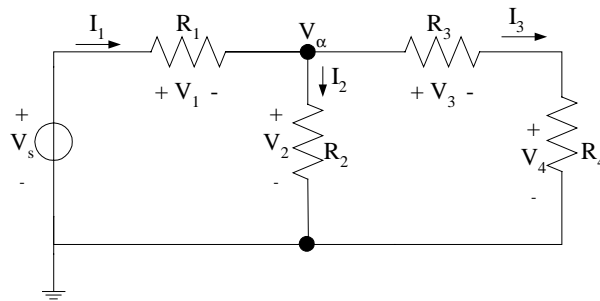

Figure 1: dc Resistive Circuit
The following outlines a sample **Theory** section. Complete the calculations where indicated in your report. The dc resistive circuit shown in Figure 1 is used for this investigation:
- A. Ohm's Law, $V=IR$, states that the voltage V across a resistive element is directly proportional to the current I flowing through it, and is related by a constant known as resistance R . Write the Ohm's Law equations for the four resistors in the circuit of Figure 1.
- B. Kirchhoff's Voltage Law (KVL), $\sum V_i = 0$, states that the algebraic sum of the voltages around any closed path or loop in the circuit is zero. Write the KVL equations for the meshes in the circuit of Figure 1.
- C. Kirchhoff's Current Law (KCL), $\sum I_i = 0$, states that the algebraic sum of the currents at any node in the circuit is zero. Write the KCL equation at node α in the circuit of Figure 1.
The laboratory work associated with this investigation is conducted in three stages. First, the resistors for the circuit in Figure 1 are selected and measured. The circuit is then assembled on the protoboard and connected to the dc power supply. Second, the measurements of currents and voltages are taken with the source voltage set to 20.0 Volts. Third, the measurements of currents and voltages are taken with the source voltage set to 2.0 Volts.
- A. Resistor values are chosen for the circuit in Figure 1. Choose five different values for R_1 , R_2 , R_3 , and R_4 . Keep in mind that these are $\frac{1}{4}$ Watt resistors, and you do not want to burn up any of these resistors. Use the theoretical results derived above to help guide you in proper choices for these resistors. Measure the actual resistance values of the resistors and record the results in a Table in your lab notebooks.